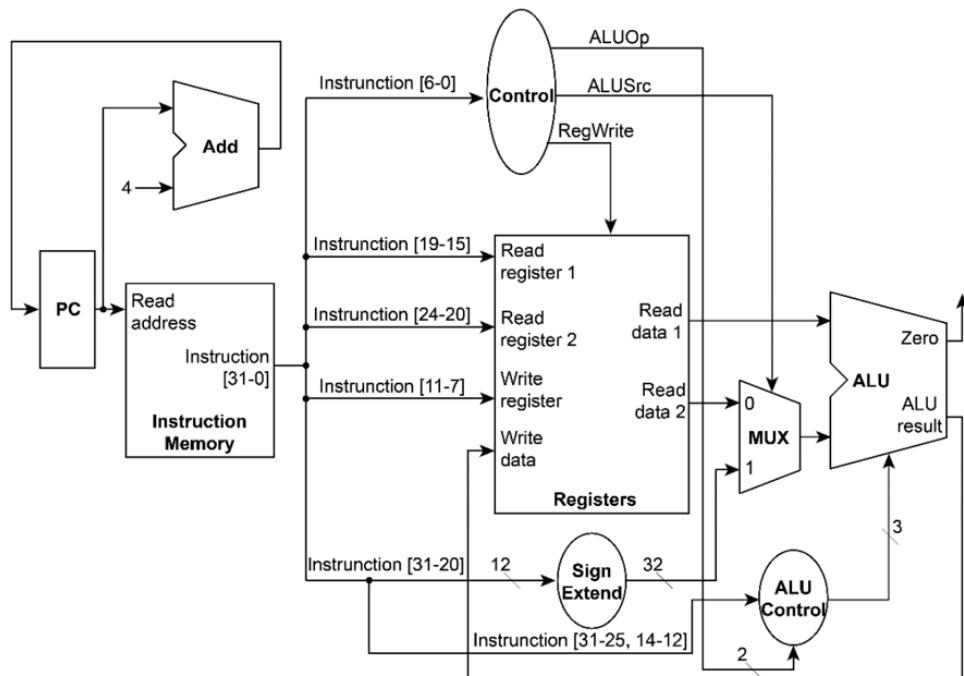

Figure 1 Data path of the CPU in this homework.
- Figure 1 describes the CPU data path.
- **You may implement** the modules listed in Section 1.6, and integrate them in `CPU.v`, it will be easier if you follow Figure 1